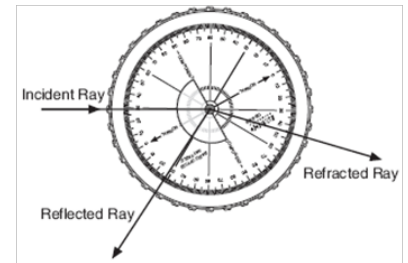

Figure 2
Now set the D-shaped lens on the rotating table so that the incident ray first strikes the *round* side of the D-shaped lens (see Figure 2).
**YOUR SKETCH SHOULD LOOK DIFFERENT THAN FIGURE 2!**